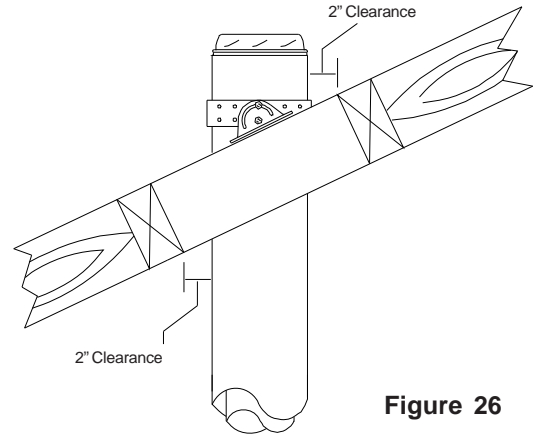

Figure 26
- The URSA is mounted directly on the roof sheathing with its Support Plate resting over rafters or a framed opening to form a solid base. Frame a rectangular roof opening to ensure a good distribution of weight load. Be sure to allow for a minimum of 2" airspace clearance to combustibles as shown in Figure 26. Reference the main chimney installation instructions for frame specifications and other details.